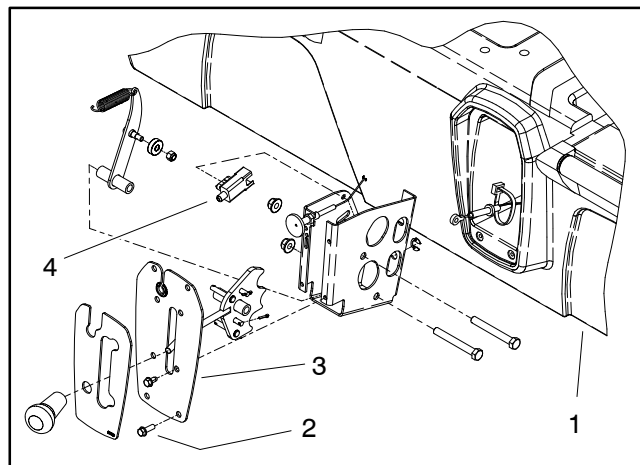

Figure 22
The optional reverse switch is a four (4) terminal, two (2) circuit switch that is used to energize the audio alarm when the shift lever is in the reverse position. The normally open switch circuit is used while the normally closed switch circuit is not used. If equipped, this switch is attached to the shift bracket in the seat base (Fig. 22).